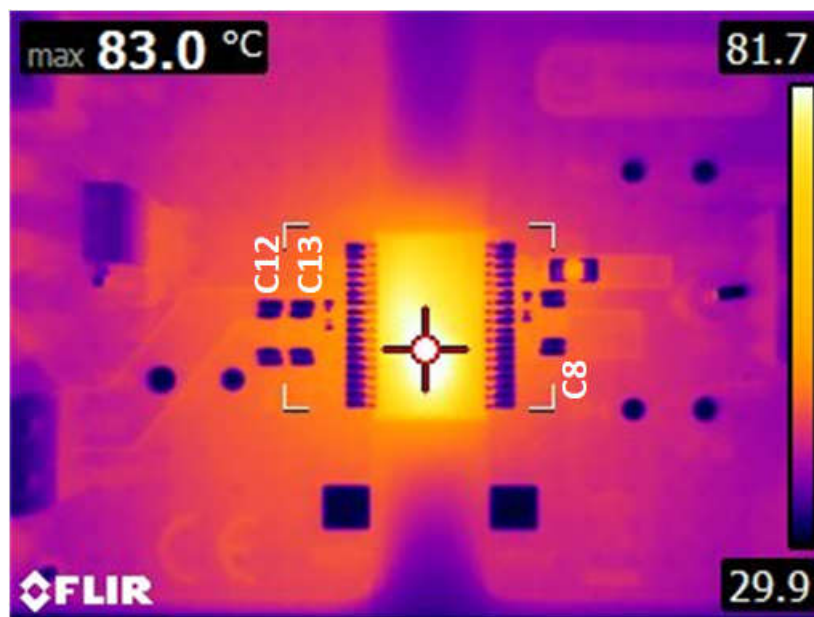

図 14-6. Thermal Image
- f. As seen in 図 14-6, there is a point of diminishing return, regarding the number of vias and size of the thermal via array. For 1.5-W of output power, heat transfer is shown to quickly diminish just beyond C12 and C8. The distance from the inner pad line of U1 to C12 is 320 mils.